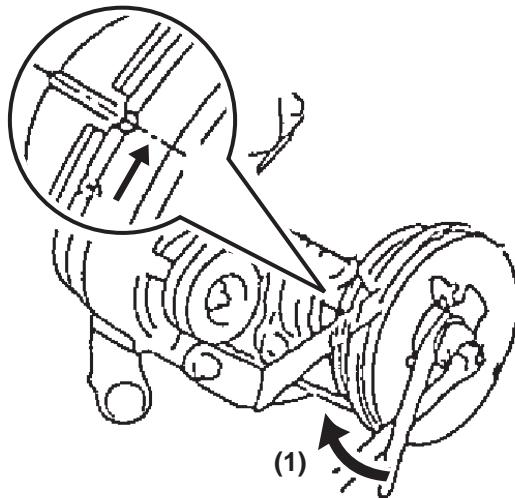

Figure 5-230
8. Slowly turn the crankshaft pulley clockwise **(Figure 5-230, (1))** to align its groove to that of the timing gear cover.